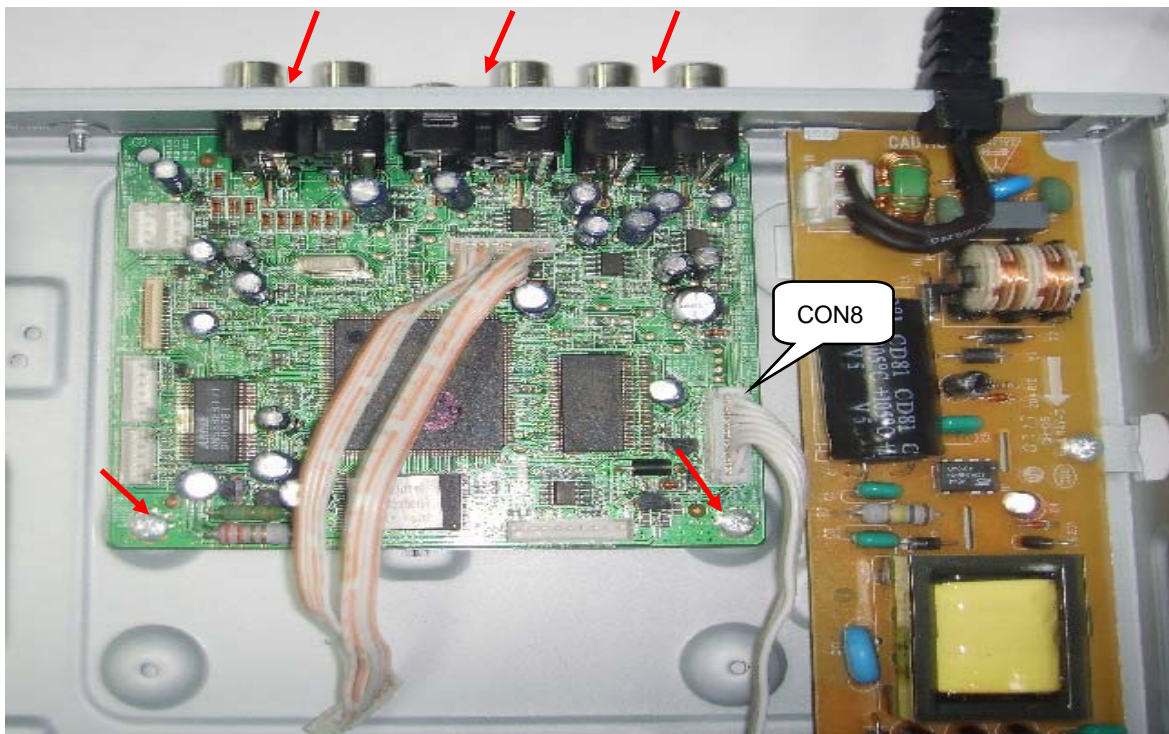

Figure 9
**Step7:** Dismantling Main Board, first disconnect the 1 connector, then remove 5 screws to remove the Main board. (Figure 9)